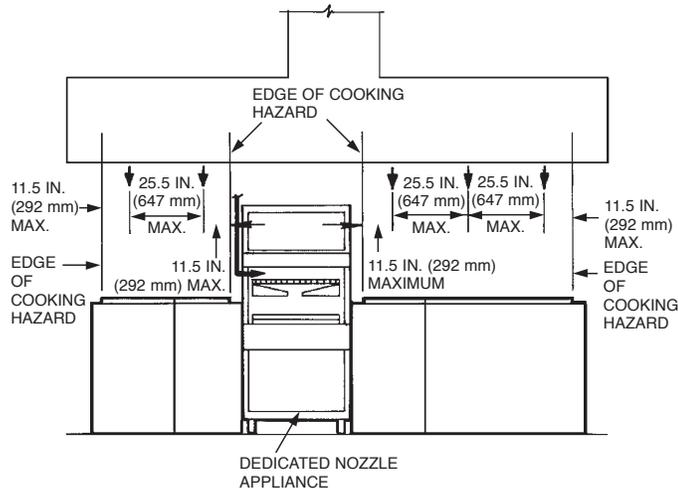

FIGURE 4-119
- When an appliance requires dedicated protection with a protected area intended for overlapping appliance nozzle protection, the group protection option will be required for appliances on either side of the appliances using dedicated protection. Group protection using overlapping appliance nozzles must begin with the protected appliance(s) adjacent to the dedicated appliance protected. An overlapping appliance nozzle(s) must be positioned within 11.5 in. (292 mm) of the edge(s) of the appliance hazard surface area(s) adjacent to the dedicated nozzle protection. See Figure 4-119.